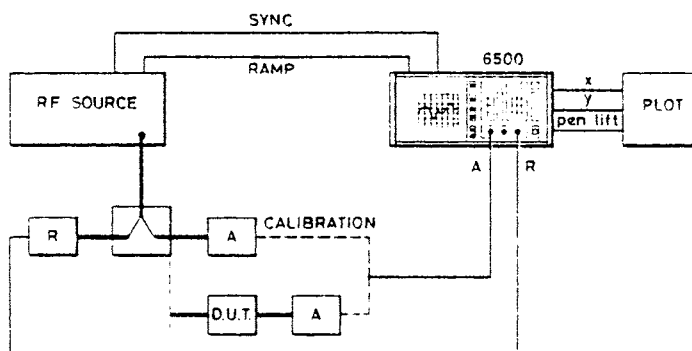

Fig. 3-16 Amplifier 1 dB compression point measurements
(1) With the equipment set up as shown in Fig. 3-16 connect channel A detector directly to the power splitter and ensure that the amplifier is operating in its linear region.
(2) Carry out a ratio measurement selecting A and -R:
(3) Normalize the frequency response by selecting:
(4) Insert the amplifier (D.U.T.) between the channel A detector and the power splitter.